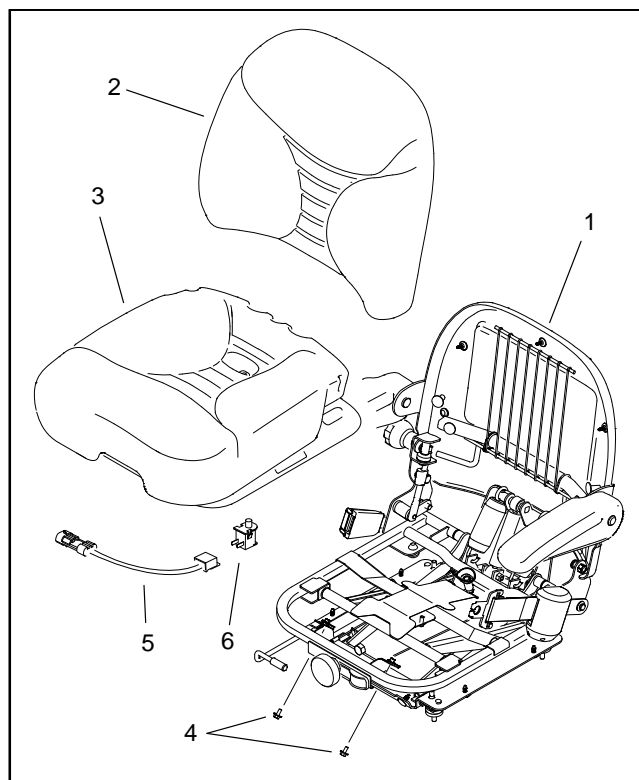

Figure 40
6. If the continuity test determines that the seat switch is not operating correctly, remove the seat cushion from the seat chassis (Fig. 40):
A. Remove two (2) flange head screws under the front of the seat cushion.